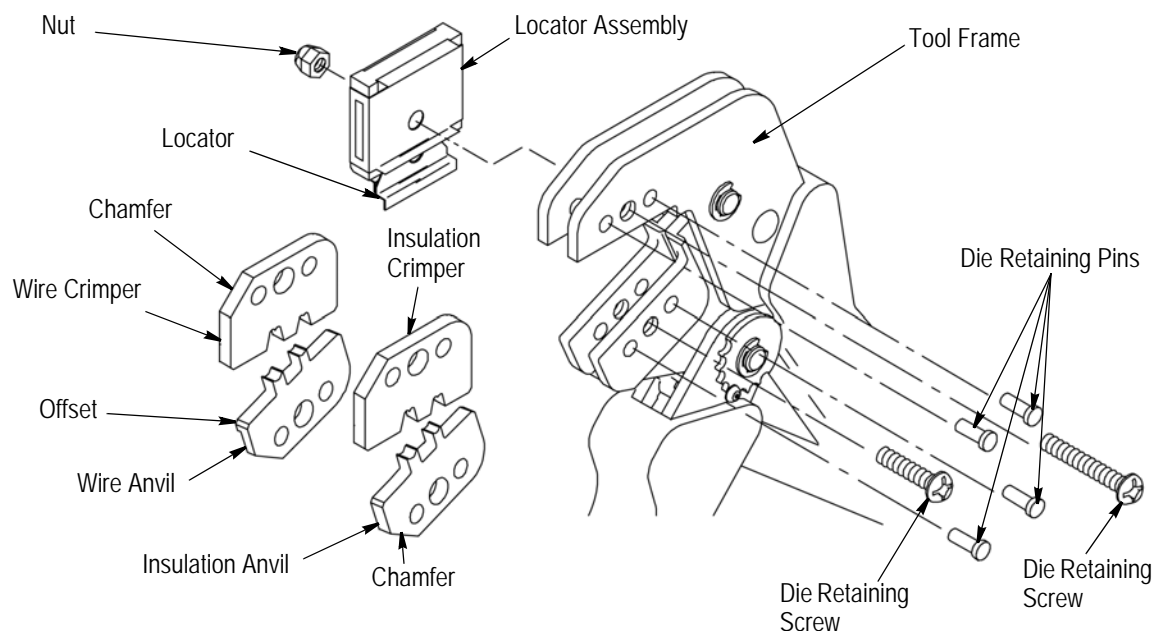

Figure 2
3. INSTALLATION AND REMOVAL OF DIE SET AND LOCATOR ASSEMBLY (Figure 2)